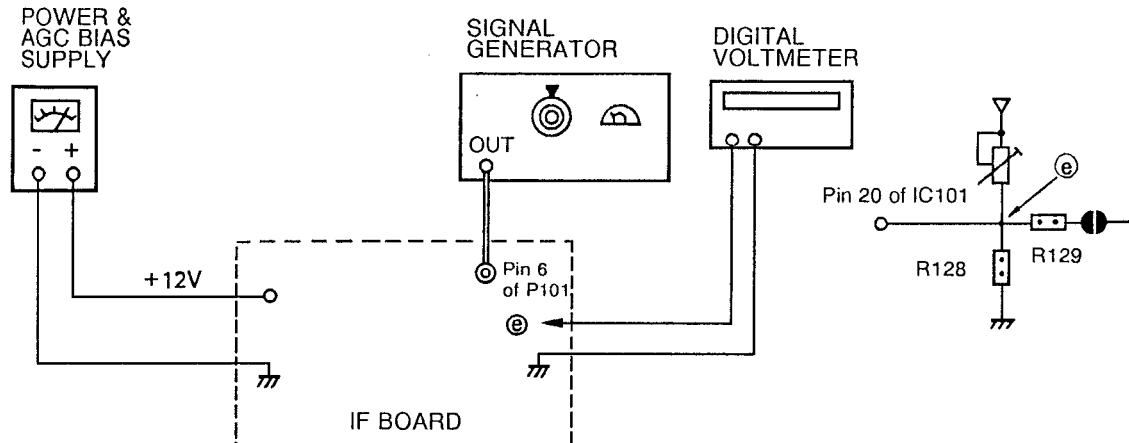

Figure 6. AFC Alignment
- GENERAL ..... Refer to figure 6 for test equipment connection.
3. Supply +12 volts to the IF Board. (See figure 6.)
- DVM ..... Connect to the resistor R128 (⊙ in figure 6) and ground.